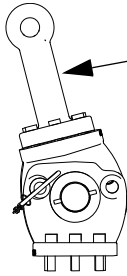
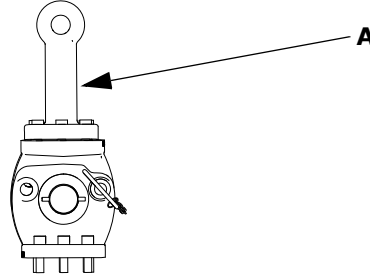

Figure 1.16 Position 1
Figure 1.17 Position 2
When drilling oilseed, the front tool's drawbar (A) must be in position 1 ("Figure 1.16"). Remember that when drilling oilseed the outermost, long, coulter does not drill. When drilling grain, the front tool's drawbar (A) must be in position 2 ("Figure 1.17").
To centre the machine for drilling grain and for transport, the drawbar must be moved 8 cm to the side and be in position 2. See "Figure 1.17".
- 1 Place the drawbar (A) in position 2. See "Figure 1.17".
- 1 Place the drawbar (A) in position. See "Figure 1.16".
For the machine to be centred for transport the drawbar must be in position 2, see *"Figure 1.17"* and *"Switching from drilling oilseed to drilling grain and transport"* on page 21.